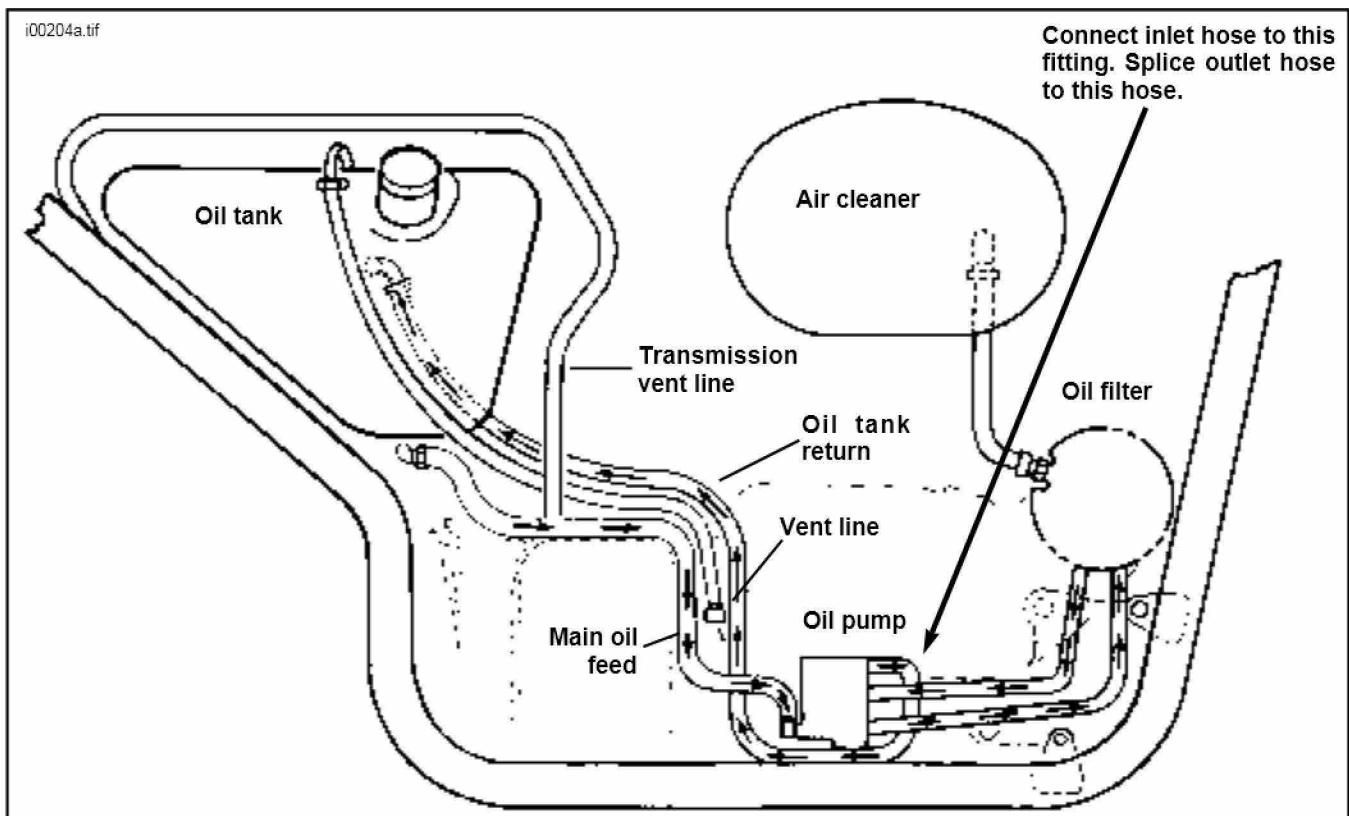

Figure 5. Oil Hose Routing - 1986-1990 XLH 883, 1100 and 1200 Models
1. See Figures 5 and 6. Disconnect oil return line at the oil pump. The return line is located at the front, top of the oil pump and is secured with a hose clamp. Use a pan to catch any oil that may spill.